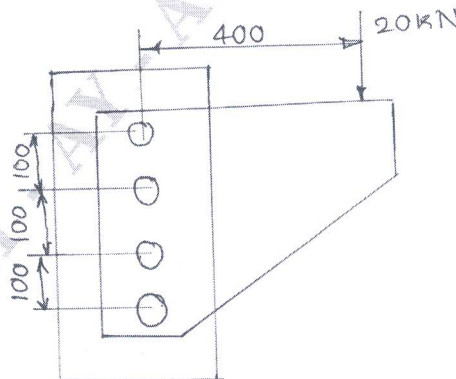

Fig. Q7 (b)
- b. For the riveted joint shown in Fig. Q7 (b), determine the size of the rivet taking permissible shear stress in rivets as 60 MPa. (10 Marks)